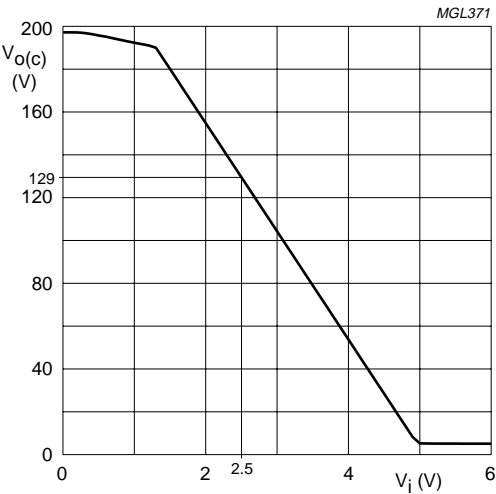

Fig.5 Typical DC-to-DC transfer of  $V_i$  to  $V_{o(c)}$ .
1. See also Fig.5 for the typical DC-to-DC transfer of  $V_i$  to  $V_{O(c)}$ .